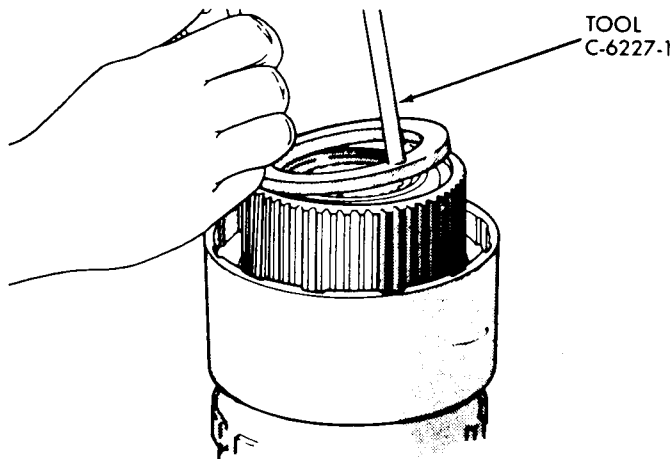

Fig. 1—Compress Direct Clutch Spring
(1) Place the output shaft in a fixture that will support the output shaft flange. With the assembly properly supported in the press, place the Tool C-6227-1 in place (Fig. 1). Have a helper operate the press to compress the direct clutch spring.